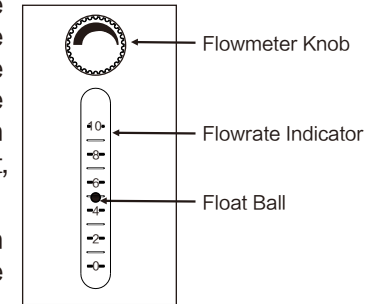

Figure 6: Setting Flowrate
- flowmeter knob upward to increase the flow and rotate it downward to reduce the flow (Figure 6). At the same time, there should be oxygen output at the humidifier oxygen outlet.